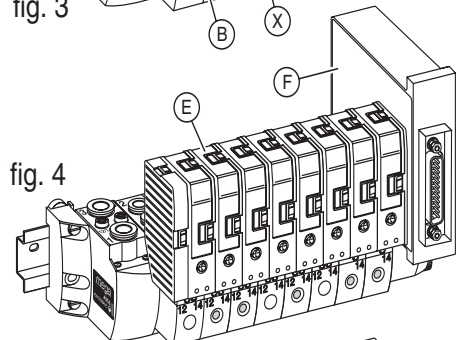

fig. 4
■ MULTIPOLAR: MULTIPOL IP65 (fig. 4)